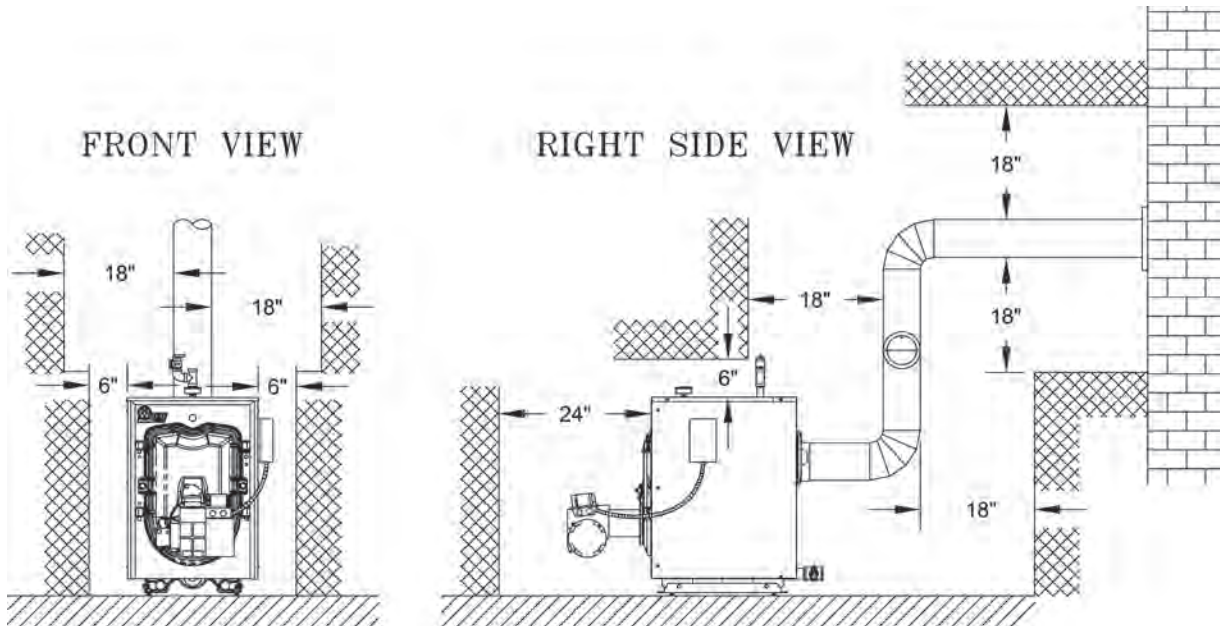

Figure 2A: Chimney Minimum Installation Clearances To Combustible Materials (Inches)
- 12" minimum for rear smokebox cleaning (Note: This dimension will also be controlled by horizontal to vertical to horizontal smokepipe arrangement - **Chimney Vent** (see Figures 2A and 10).
5. For minimum clearances to combustibile materials. See Figures 2A and 2B.